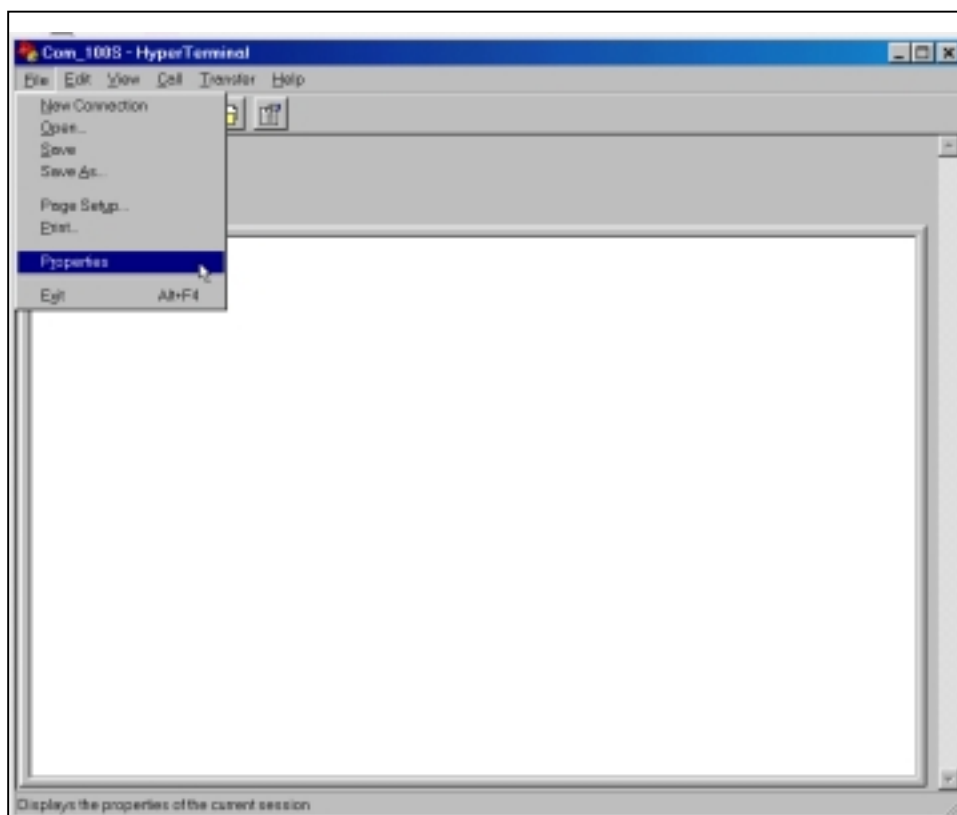

Figure A-2
3. Run HyperTerminal on PC#2. Set its properties according to the above configuration guide (Fig A-2 ..4).